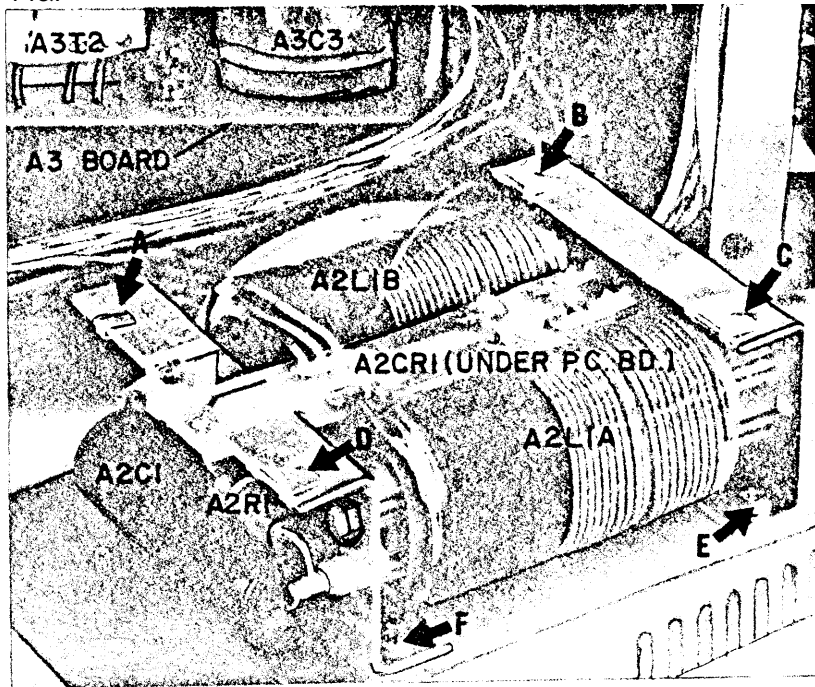

Figure 7-1. A2 RFI Assembly Component Location Diagram (Shown removed from supply with assembly cover off.)
a. Component location diagrams (Figures 7-1 through 7-8, and 7-10), showing the physical location and reference designators of parts mounted on the printed circuit boards and chassis.
c. Schematic diagram (Figure 7-1 1), illustrating the circuitry for the entire power supply. Voltages are given adjacent to test points, which are identified by encircled numbers on the schematic.